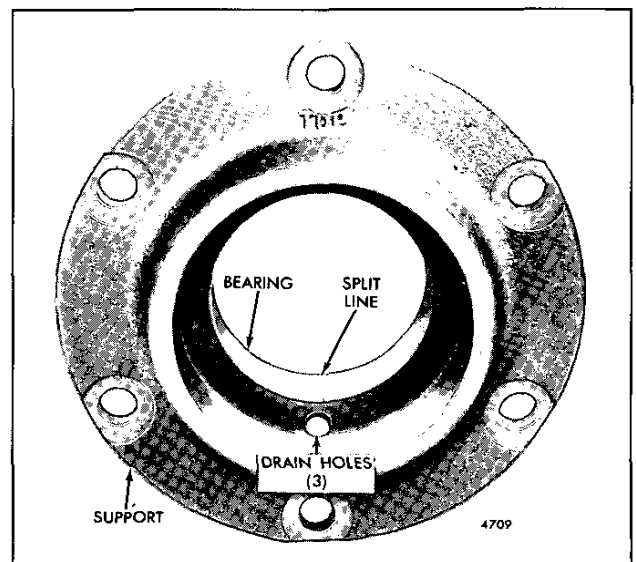

Fig. 2 - Location of Bearing in Support
1. If the bearing was removed, position a new bearing in the support, with the split line in the bearing toward the bottom of the support (Fig. 2), and press it in until it is flush with the rear face of the support.